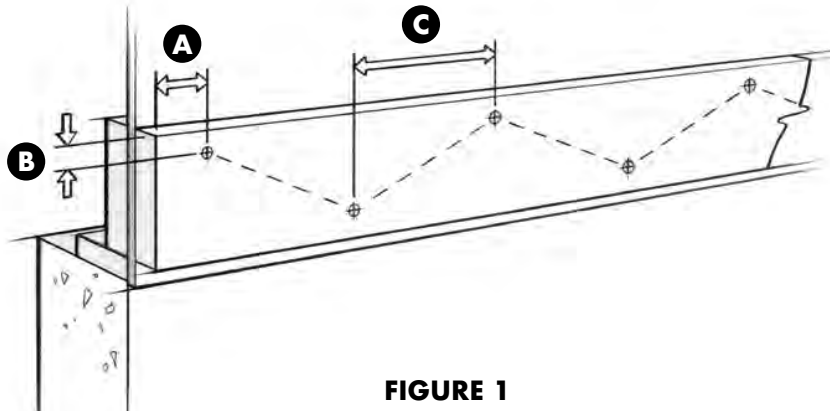

FIGURE 1
- Follow the minimum spacing and fastening patterns from Figure 1 and Table 1.
- Where the lateral-load connection is permitted to be installed per Figure 1, holdown tension devices shall be installed in not less than two locations per deck, within 24 inches of each end of the deck, and have an allowable stress design capacity not less than 1,500 lb.